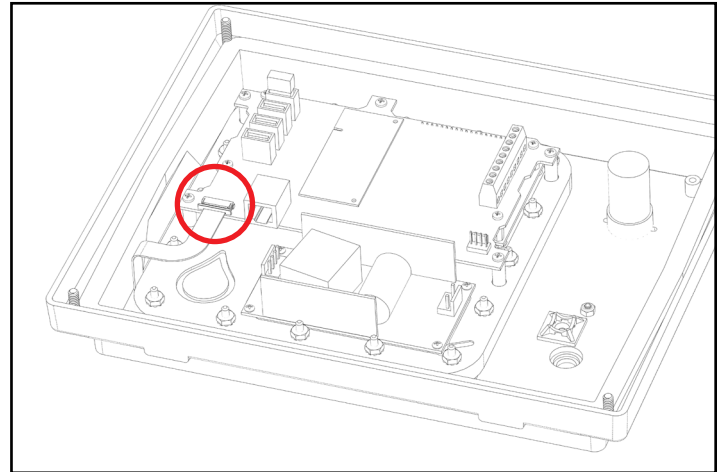

Figure 33.1: Keypad connection port location
1. Unplug the keypad ribbon from the circuit board by sliding the locking pins up using a fingernail or small flathead screwdriver [Figure 33.1 - 33.2].